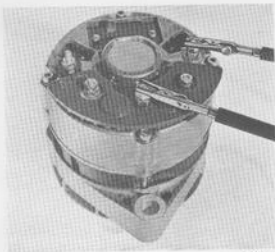

Fig. 3-43. Checking alternator
7. Connect a test lamp between B+ and the alternator frame. Switch the terminals. The lamp should light only in one direction, see Fig. 3-43. After any repairs, the alternator should be test-run in a test bench.